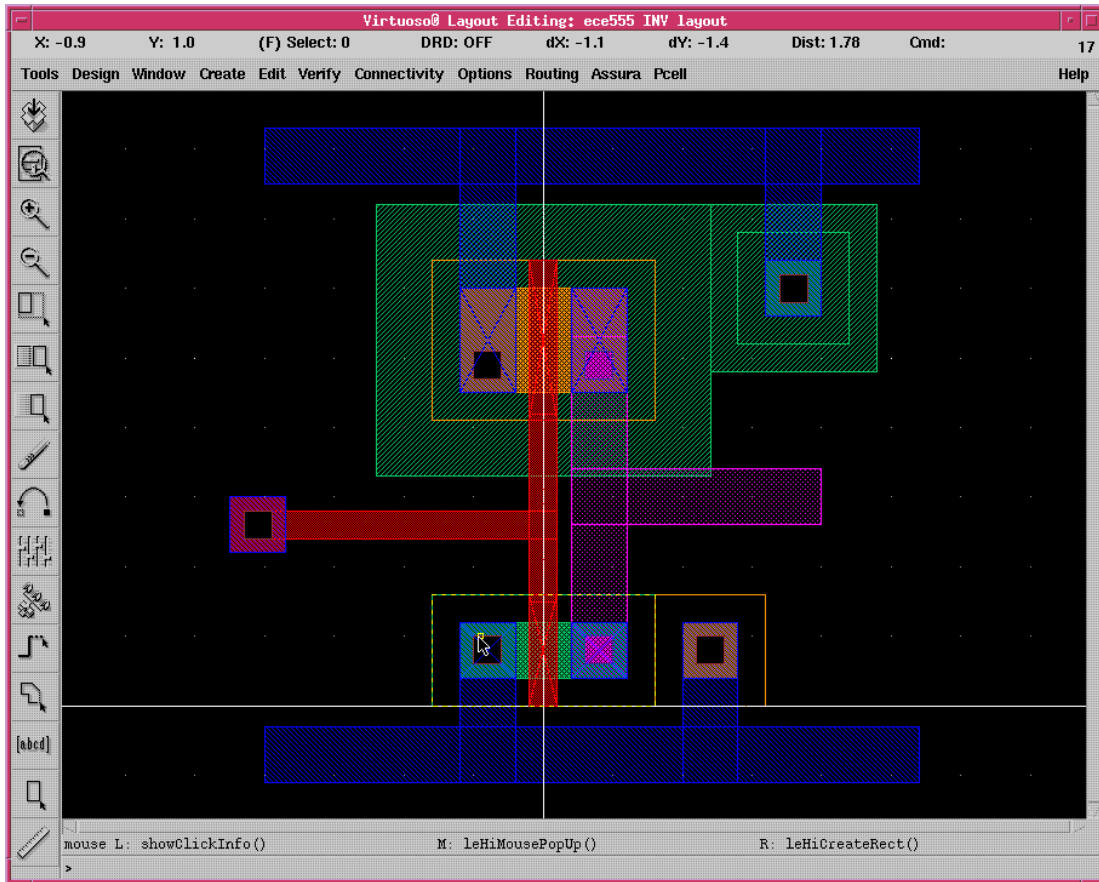

Fig. 14. Complete circuit without pins
- Now, add a poly connection to the m1\_poly via as Fig. 14. This is your completed layout without pins.